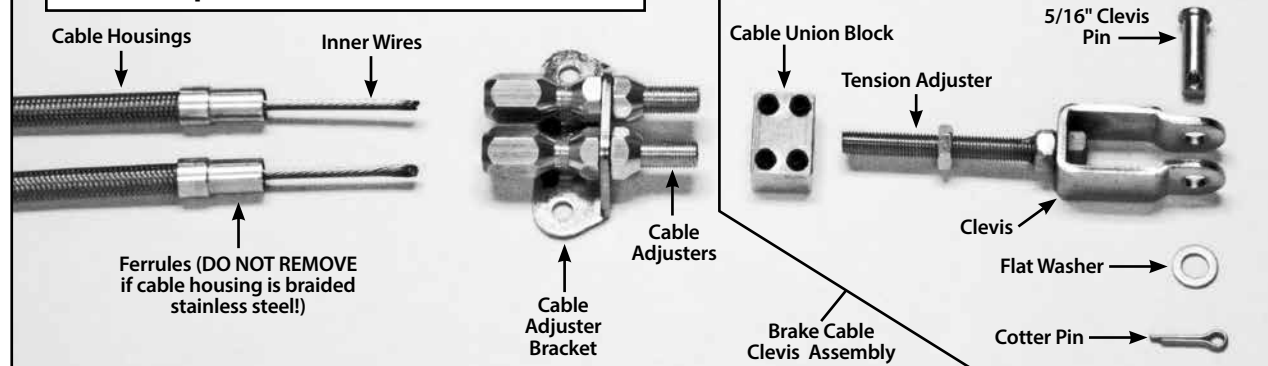

Fig. 1
*These Emergency Brake Cables are designed to be used with either Lokar's Connector Cables or Lokar's Floor Mount Emergency Hand Brake. Please see the Lokar catalog or website, or call Lokar for more information. Refer to Figs. 1, 2 and 3 for the component names.*